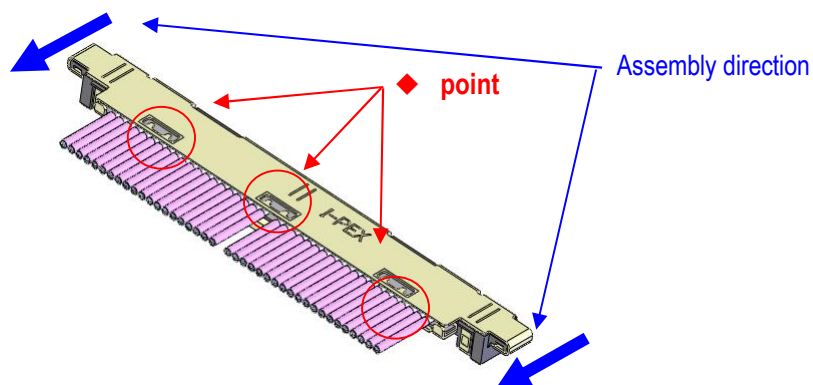

Fig.7 Soldering of Metal Cover and Ground Bar
- ③ Soldering holes of metal cover 3 positions (2 positions only 30P) and ground bar with the soldering iron at all designated points is recommended. (Fig.7 ◆ point)